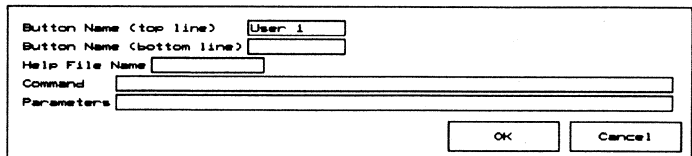

Figure 4-1. User button *Modify* window.
1. Select **User 1** and **Modify**. The window shown in figure 4-1 displays.